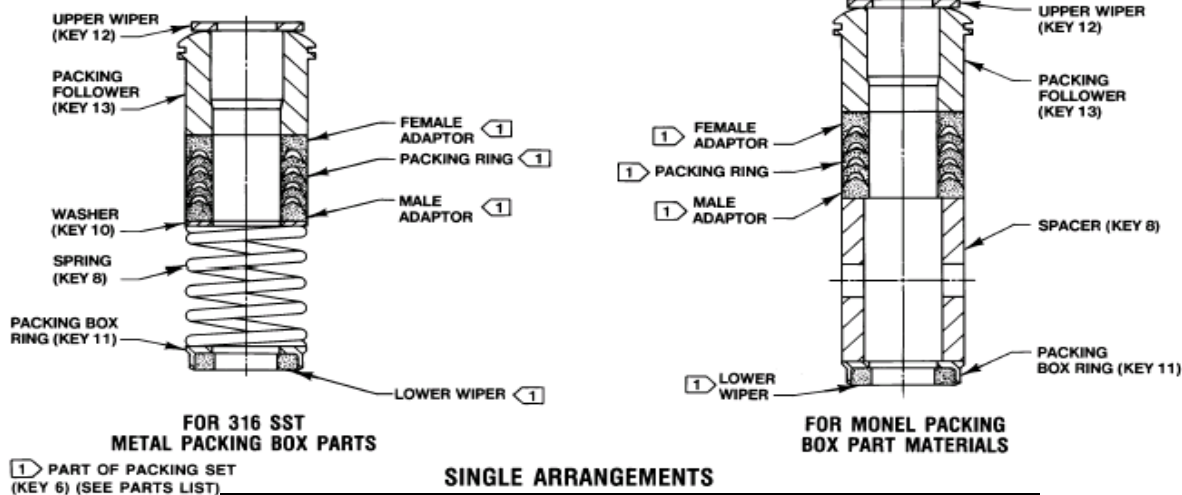

Figure 3: PTFE V-Ring Packing Arrangements for Plain and Extension Bonnets
This section covers PTFE V-ring packing as used in plain and extension bonnets. Unless otherwise indicated, key numbers refer to figure 3 for PTFE V-ring packing.
For spring-loaded single PTFE V-ring packing, the spring (key 8, figure 3) maintains a sealing force on the packing. If leakage is noted around the packing follower (key 13, figure 3), check to be sure the shoulder on the packing follower is touching the bonnet. If the shoulder is not touching the bonnet, tighten the packing flange nuts (key 5, figure 11), until the shoulder is against the bonnet. If leakage cannot be stopped in this manner, proceed to the replacing packing procedure.
The following section covers packing replacement as used in plain and extension bonnets. Refer to figure 3 for PTFE V-ring packing.
12. Install new packing and the metal packing box parts according to the appropriate arrangement in figure 3. Place a smooth-edged pipe over the valve stem and gently tap each soft packing part into the packing box, being sure that air is not trapped between adjacent soft parts.